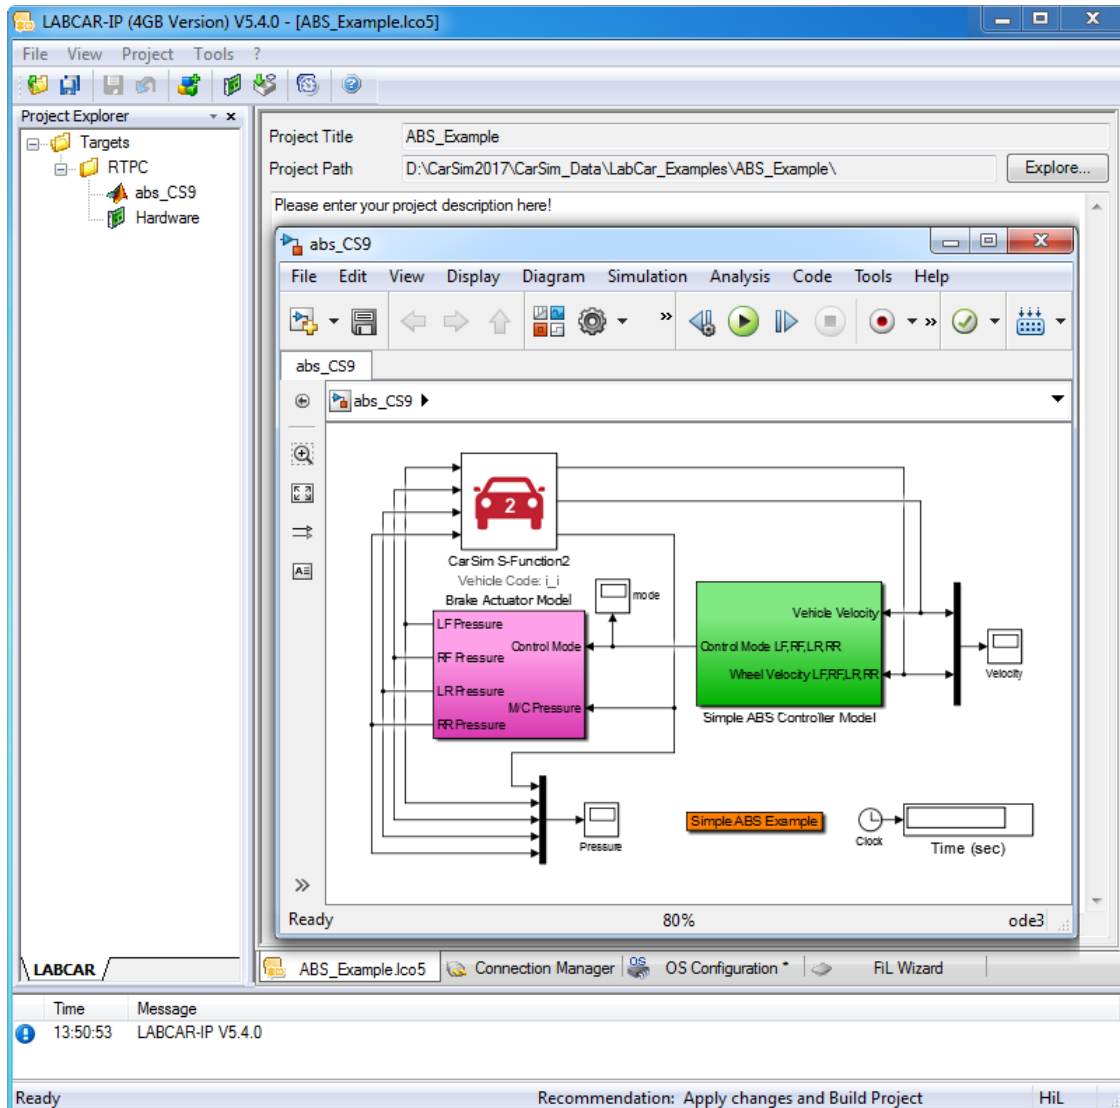

Figure 12. Project of Simulink ABS.
4. When you click the **Finish** button, LabCar Operator adds a model into the LabCar project and automatically copies all files in the Simulink folder to the folder of the project. At this point, Simulink opens and displays the model you selected (Figure 12).